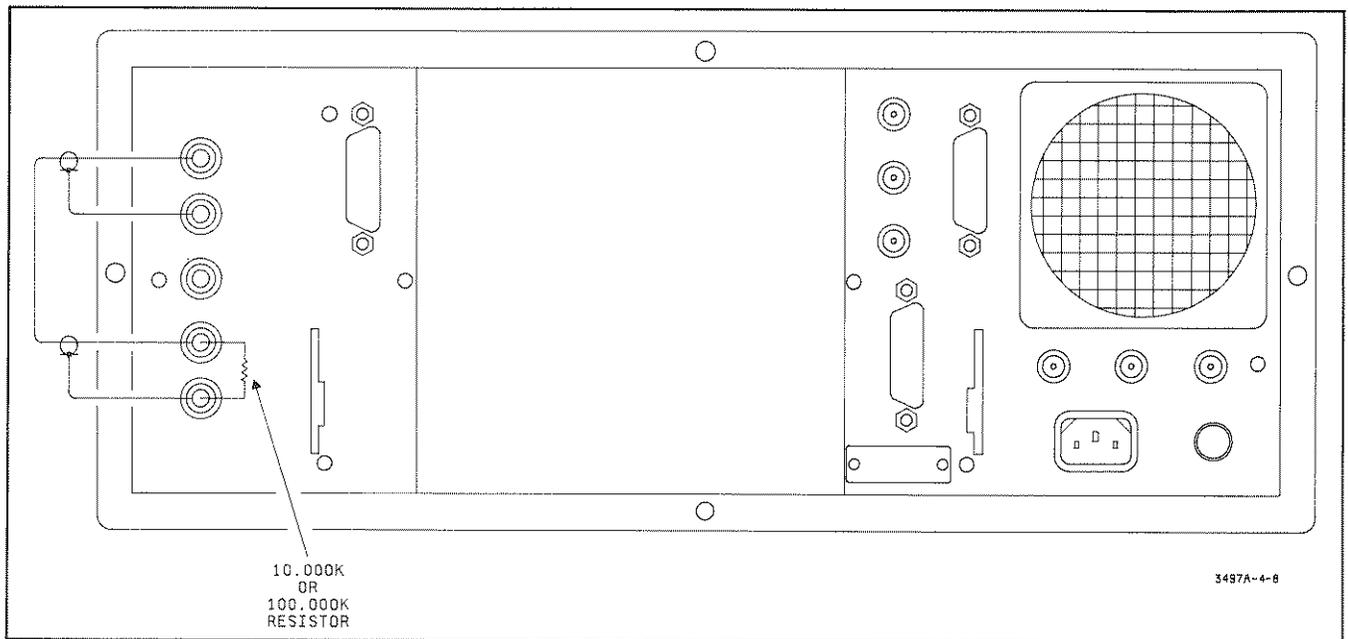

Figure 4-8. DC Current Source Test Connection
- b. (Step #2). Connect the 10K ohm Standard Resistor to the Current Source Output, as shown in Figure 4-8. Also, connect the output to the DC Voltmeter, as shown in the figure.